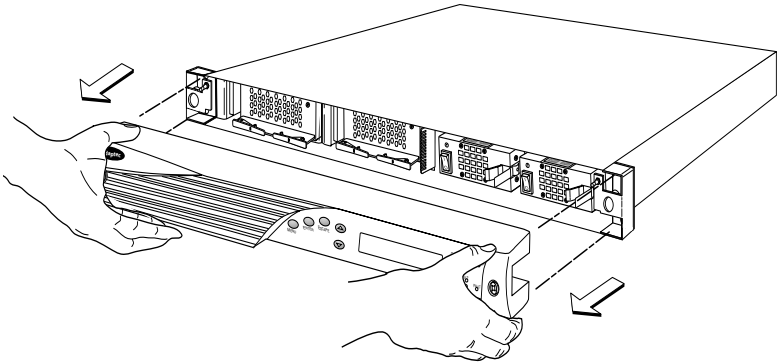

Figure 3-2 Removing the Front Bezel
- 2 Using both hands, pull the front bezel from the appliance. See Figure 3-2.